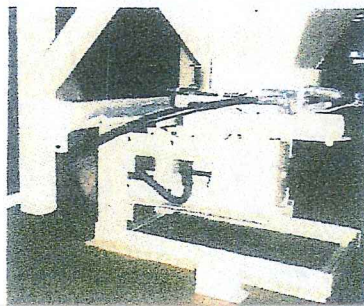

Figure 4
9. See Figure 4: Rock gearcase up (a short pry bar is good to use to hold gearcase up) to replace two lower 3" bolts, but **DO NOT** tighten the four 3" bolts yet.